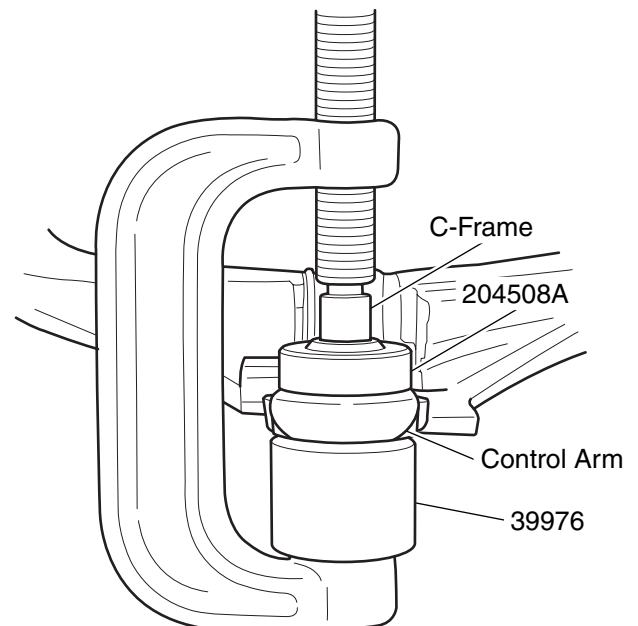

Figure 2. Ball Joint Installation
3. Position 204508A on the ball joint as shown in Figure 2.